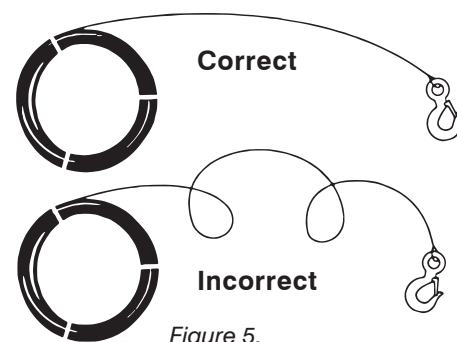

Figure 5.
2. Lay out the wire rope correctly without twisting. Twisting the wire rope reduces its strength. See Figure 5.